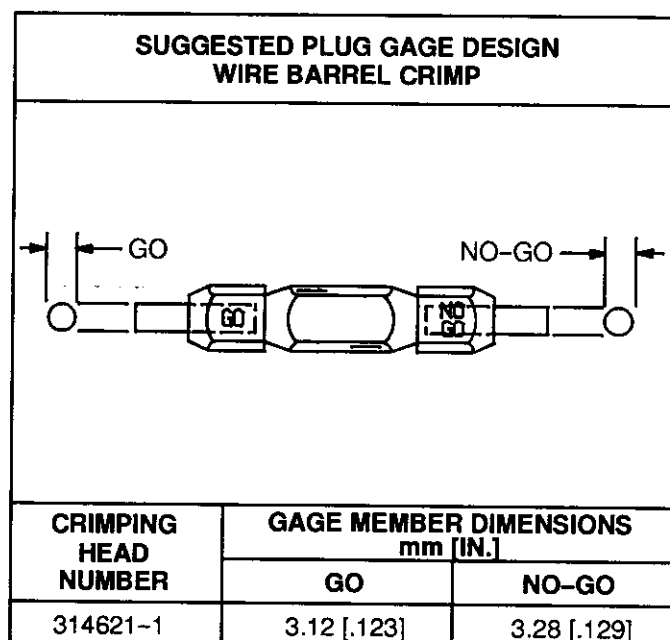

Fig. 6
The crimping head is inspected for proper jaw closure before packaging. An inspection should be performed periodically to check the jaw closure for excessive wear. The jaw closure inspection is accomplished using the plug gage. AMP neither manufactures or sells plug gages. A suggested plug gage design and the GO/NO-GO dimensions of the plug gage elements are listed in Figure 6. The following procedure is recommended for inspecting the jaw closure area.
3. If the jaw closure meets the plug gage conditions, the head may be considered dimensionally correct and should be lubricated with a THIN coat of any good SAE No. 20 motor oil. If the crimping chambers do not conform to the plug gage conditions, provided in Figure 6, contact your local AMP Field Representative, or refer to Section 6, REPLACEMENT AND REPAIR.